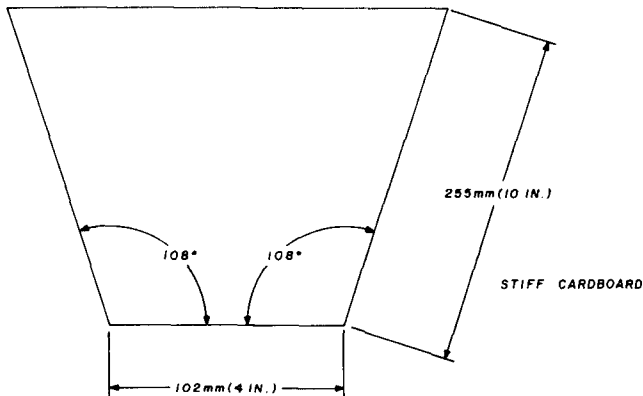

fig. 3. Template used for forming spreader-to-spider angles.
**Spider template.** A template was used to bend the cut sections of tubing to the required angle consistent with the spacing used. The angle can be between 108 and 112 degrees. The template was made of stiff cardboard, which was cut as shown in fig. 3.